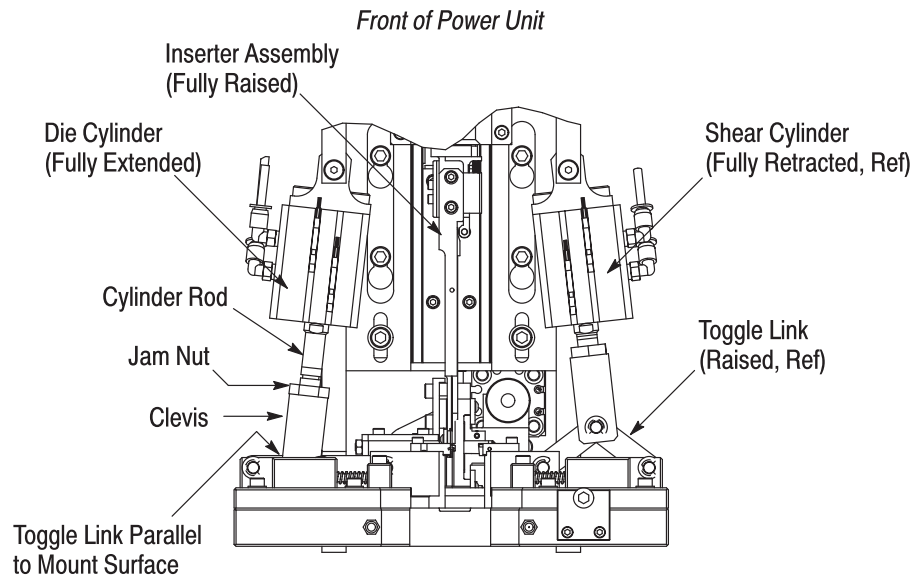

Figure 16
5.5. Die Cylinder Clevis Adjustment (See Figure 16)
**5.6. Shear Cylinder Clevis Adjustment** (See Figure 16)